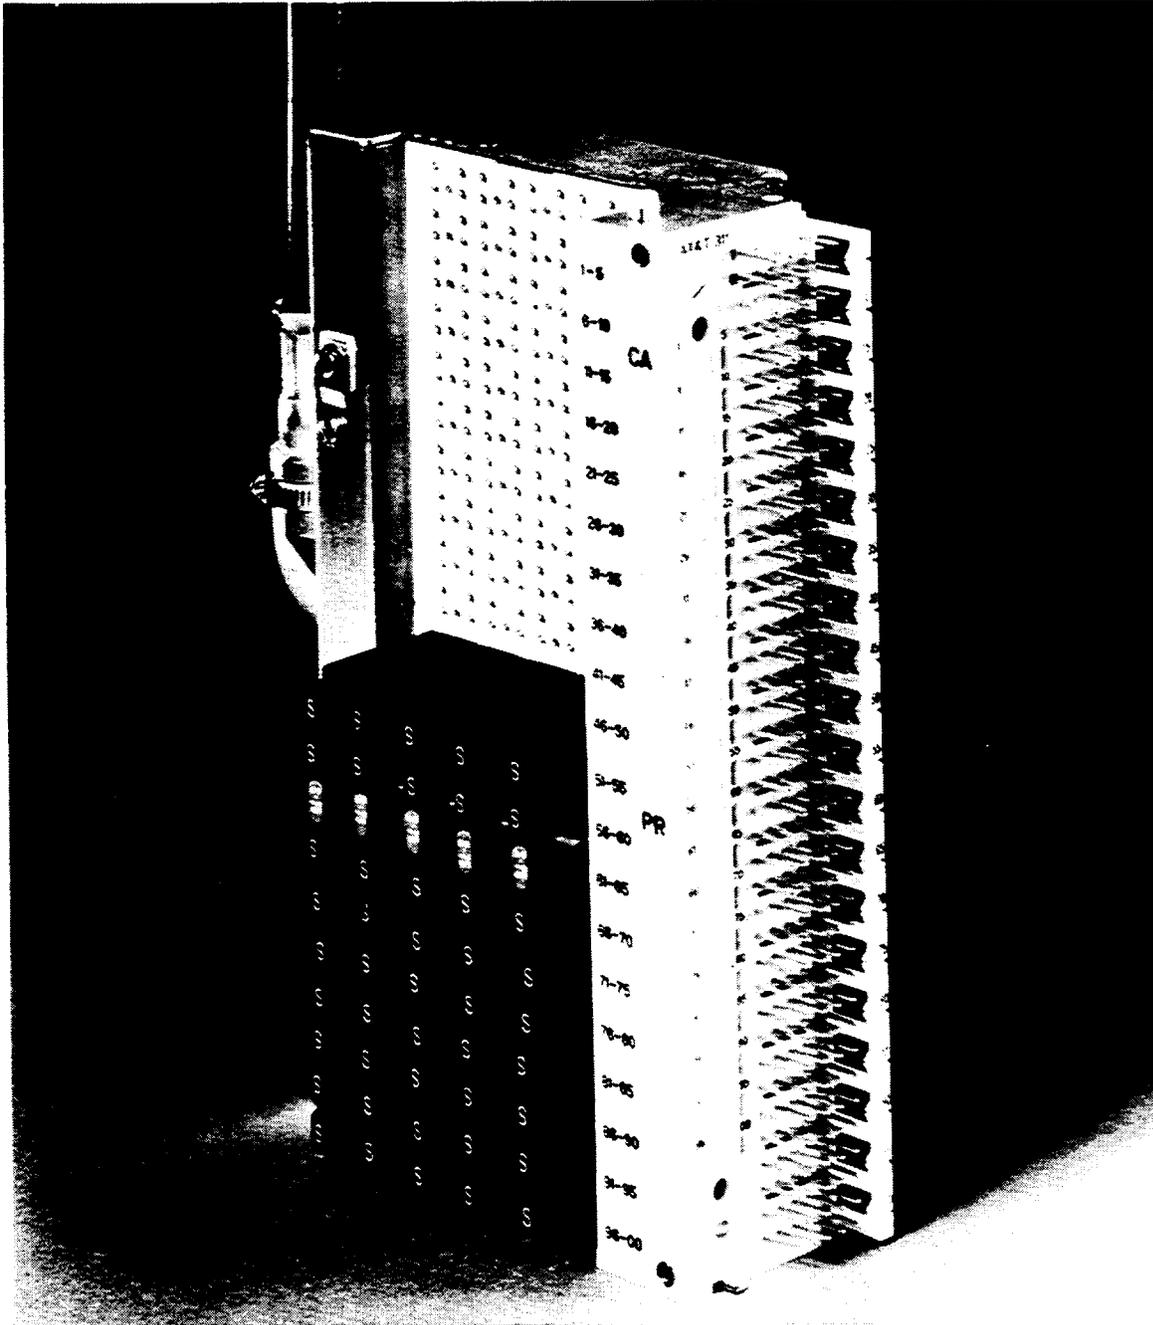

Figure 26. Front View 311L UL Listed Connector
7.02 The 311L-type connectors conform with all the characteristics of the 311-type connectors as specified in paragraphs 2.01 through 2.11 of this practice. Although most outward appearances are identical (Figure 26), there are several physical characteristics which are unique to these products.